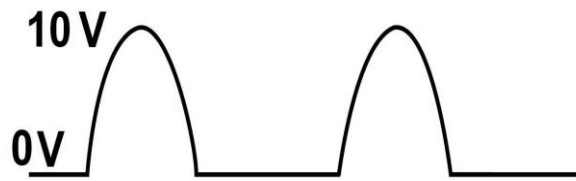

Fig. 3.1-17 Half-Wave Rectified Signal
What is the average (DC) value of the half-wave rectified voltage waveform in Fig. 3.1-17?